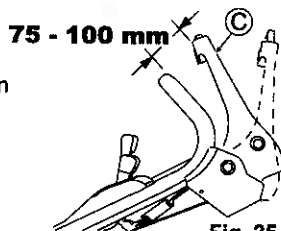

Fig. 25.
Adjust so that the blade starts rotating when the distance between Blade lever (C) and the handle is 75 - 100 mm with the yellow button pressed as shown in. (See Fig. 25.)